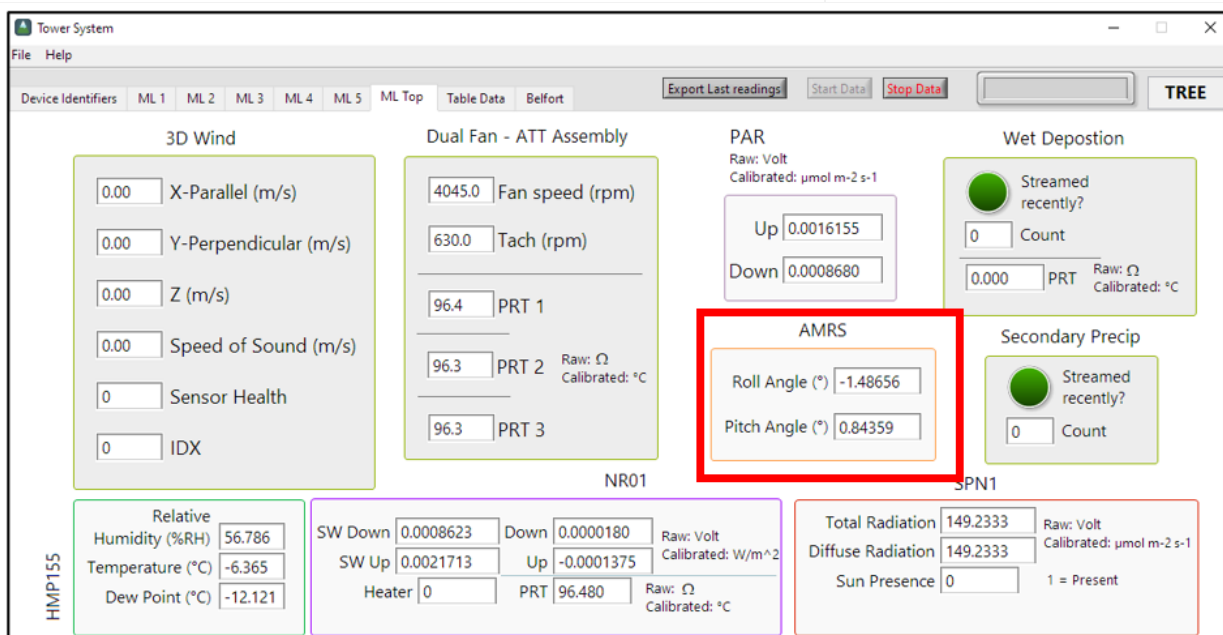

Figure 92. The IS Control and Monitoring Suite AMRS Values.
STEP 1 | Use the AMRS, measuring pitch, roll, and yaw to level the CSAT3 sensor head by viewing its associated data streams. Open the IS Control and Monitoring Suite and select the Tower Monitoring App. Open the Tab for **ML Top** (shown in **Figure 92** below).